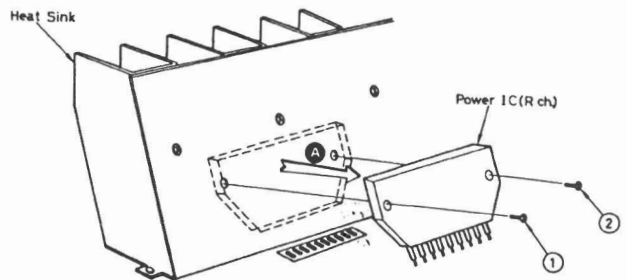

Fig. 5
2. Remove the 2 setscrews (①, ② in Fig. 5) used to secure the power IC on the heat sink, and then pull the power IC in the direction of arrow A.